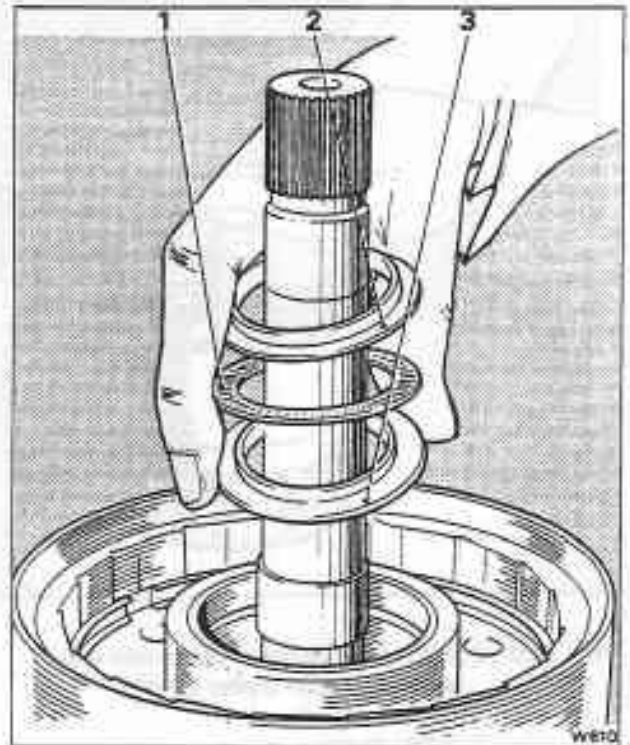

Fig. T20-17 Fitting the races and thrust bearing to the sun gear
20. Smear the centre support to sun gear thrust races and bearing with petroleum jelly and fit as follows (see fig. T20-17).